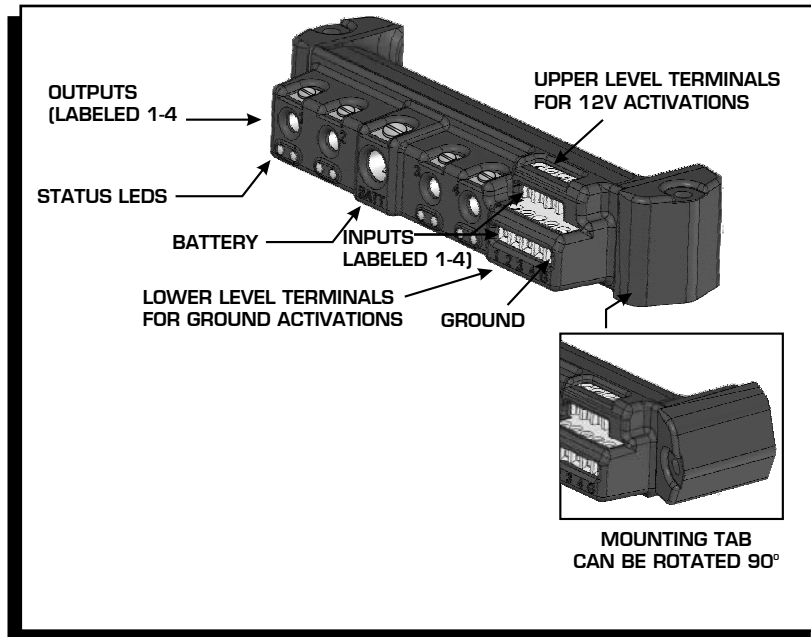

Figure 2 Solid State Relay.
1. Connect the small right terminal, marked "G", in the lower level to a good engine ground (Figure 2)